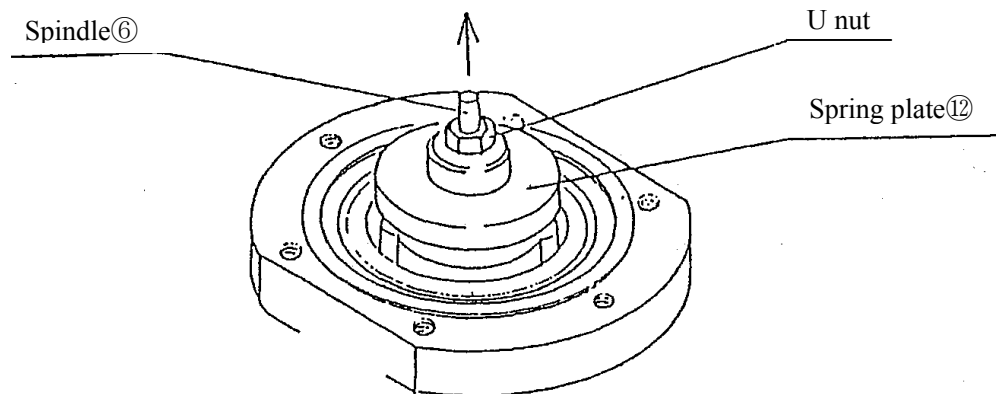

Fig.2
- (1) Relieve the internal pressure completely, and make sure the pressure is zero.
- (2) Slightly loosen the lock nut⑩ and turn the adjusting screw⑮ counter clockwise to relieve the adjusting spring⑭ (Unload the spring).
- (3) Remove the hexagon bolt from the spring chamber②, then remove the spring chamber②, and take out the adjusting spring⑫ and the spring plate⑬.
- (4) To remove the diaphragm⑪, fix the spindle⑥ and remove the U nut.
- (5) To remove the retainer④, loosen and remove the retainer guide clamping bolt and pull the retainer guide⑤. Remove it by the below method (Fig.2, Fig.3) when it is difficult to remove the retainer guide⑤.
To remove the retainer guide⑤ easily, install the spring plate⑬ and U nut to spindle⑥ again and pull the spring plate⑬. (Fig.2)